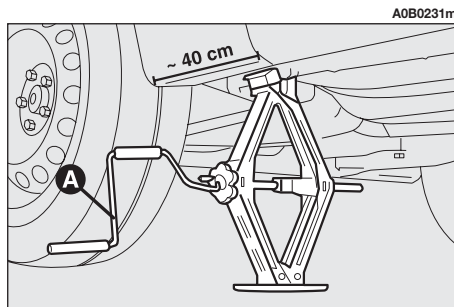
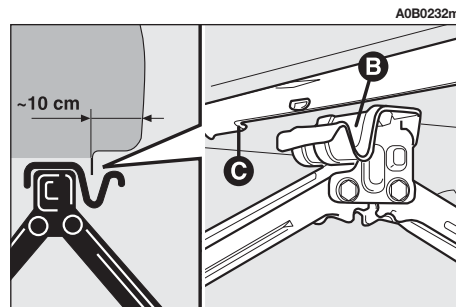

fig. 5
fig. 6
- Work the jack crank (**A**-fig. 5) to extend it until the groove (**B**-fig. 6) on the upper part of the jack is correctly inserted on the lower profile of the body (**C**-fig. 6) at about 40 cm from the profile of the wheelhouse.